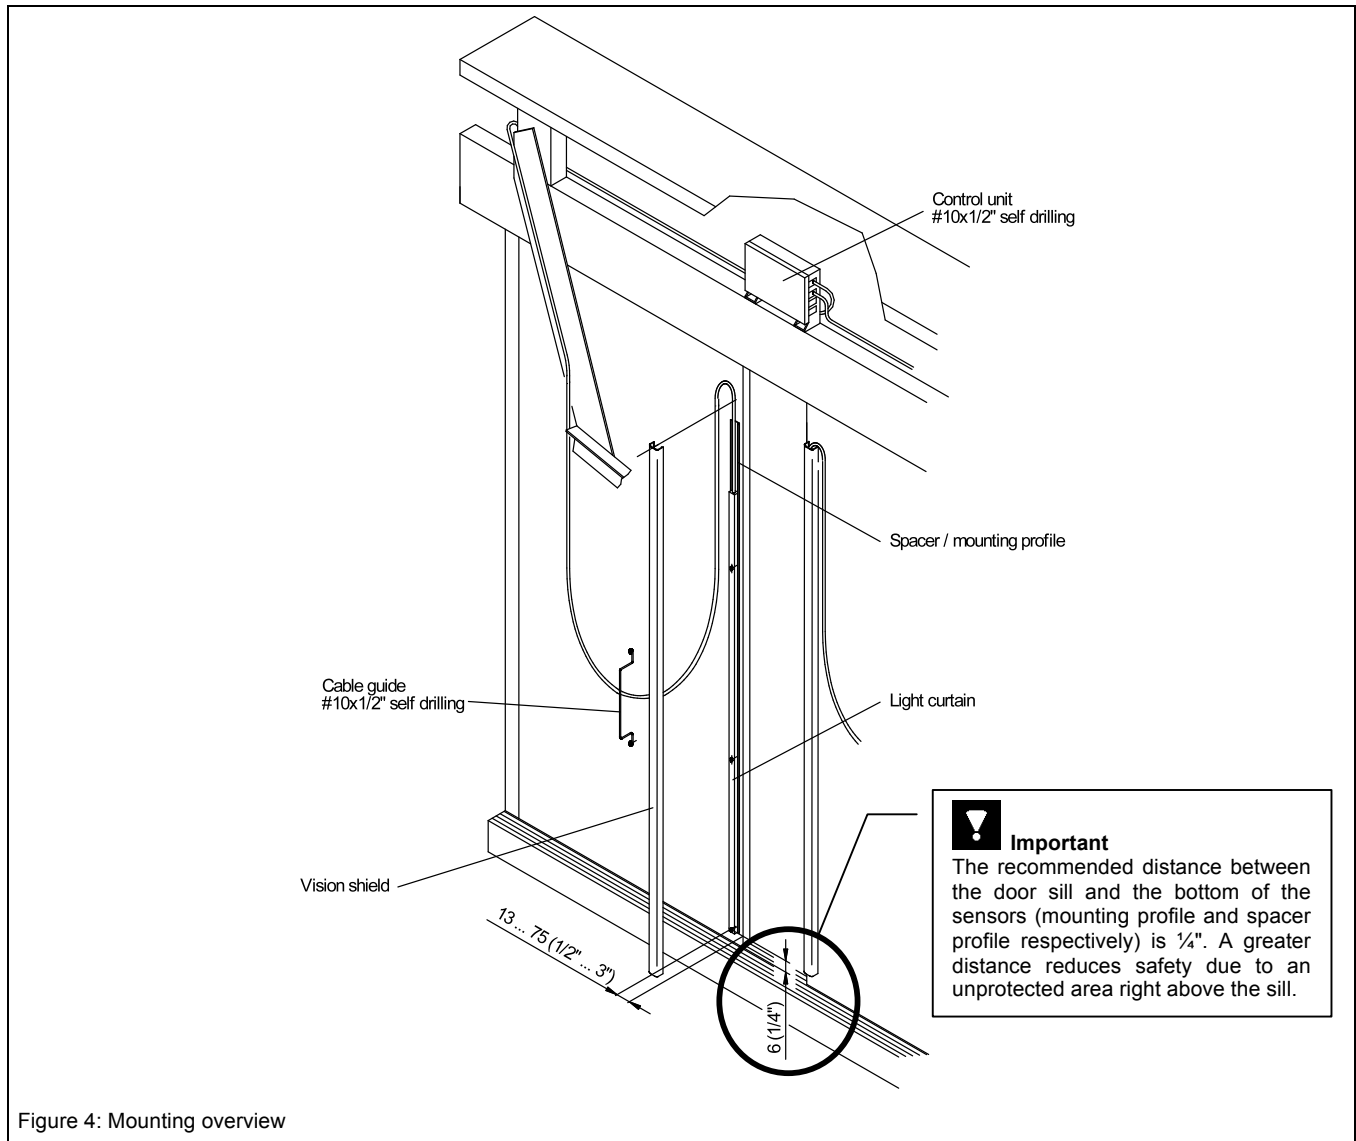
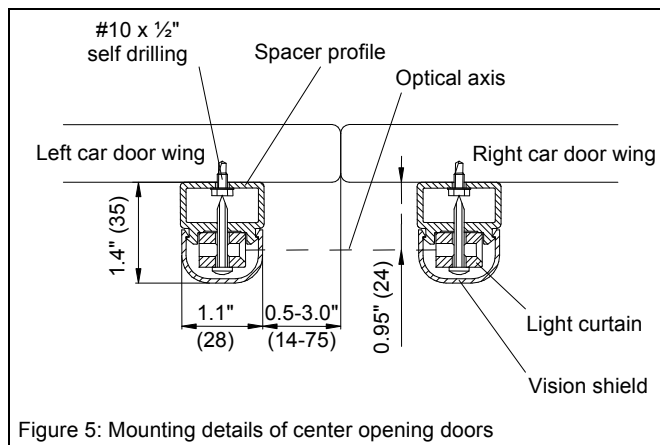

Figure 4: Mounting overview
Figure 5: Mounting details of center opening doors
Figure 4 shows an overview of the installation. Details are provided in the following sections.
1. Install the spacer profile to the door with six (6) self-tapping screws (note the 'bottom' label on the spacer profile. Refer to Figure 4 for proper mounting position).
2. Install either the emitter or receiver unit to the spacer profile using three (3) sink screws.
We recommend installation of the sensors as far away as possible from the leading edge of the door to prevent them from being damaged, e.g. by vandalism (refer to Figure 4: Mounting overview and Figure 5: Mounting details of center opening doors).
The control unit can be mounted horizontally or vertically using #10 x 1/2" self-tapping screws. An ideal mounting position is shown in Figure 4.